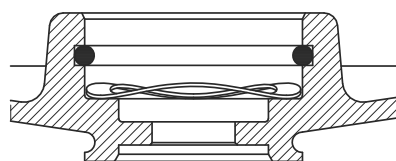

Fig. 28 Correct fitting of spring and O-ring
1. Push bearing (pos. 154) onto shaft (pos. 51).
2. Fit spring (pos. 158) and O-ring (pos. 159). See fig. 28.